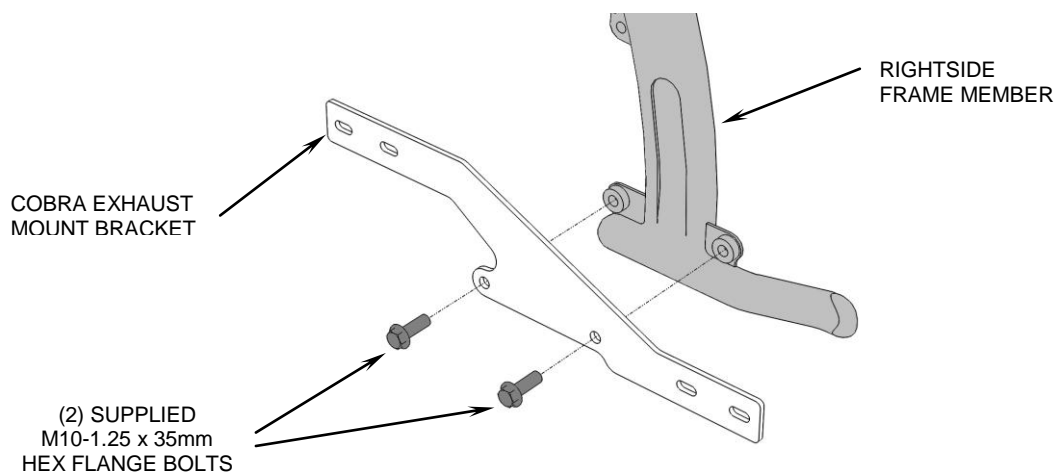

FIGURE 1
3. Remove the stock exhaust system and stock exhaust mount. Save the (4) acorn nuts that attach the headpipes flanges to the cylinders, and exhaust gaskets for later use during installation.
4. Install the supplied exhaust mount bracket using the (2) supplied M10 x 35mm hex flange bolts, but **DO NOT FULLY TIGHTEN**. See Figure 1.
5. Install the stock O₂ sensor into the O₂ sensor bung on the supplied front exhaust assembly, and tighten it securely. Install the front exhaust assembly to the front cylinder using the stock acorn nuts removed in Step 3, but **DO NOT TIGHTEN**. Make sure exhaust gasket remains in place. Align muffler with mounting holes in the exhaust mount bracket and insert (2) supplied 5/16"-18 x 5/8" hex flange bolts but **DO NOT TIGHTEN**.